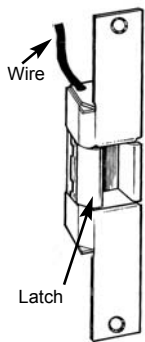

Figure 3. Position of Electric Strike for Right Hand Inswinging and Left Hand Outswinging Door
The position of the Electric Strike within the door jamb will be the same for a right-handed inswinging door and a left-handed outswinging door. For these installations, the Electric Strike position within the door jamb will be as viewed in Figure 3.
Perform this procedure only when necessary to change direction of Latch (1, figure 1) in relation to door frame (see figures 3 and 4). Then frame handing is performed by reversing the position of the double ended Slider (2, figure 1) and Coil Assembly (3).
1. Place Electric Strike face down, and from back of assembly, remove two Screws (4) from Frame Cover (5). Remove Frame Cover from Electric Strike, being careful when pulling coil leads (with shrink tubing) through opening in Frame Cover (5).
3. On the side of Electric Strike, remove Screw (6), which holds Coil Assembly (3) to Frame (7).